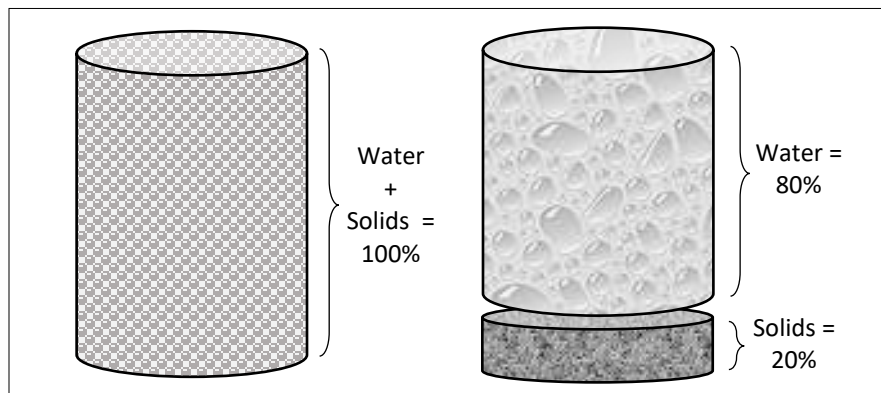

Figure 5-1. Total solids content is the weight of the solid material, minus the weight of the water, in a volume of residuals expressed as a percentage.
To determine dry weight concentrations, you have to know how the amount of liquid versus the amount of solids in the sample. The lab weighs the sample in its “as-is” condition. The lab then dries the sample until all the water evaporates and weighs the dry material that is left. The weight of the dry material is the total solids (TS) content of the sample. It is reported as a percentage and is often referred to as “percent solids” (Figure 5-1). Remember the figure below from Chapter 1?